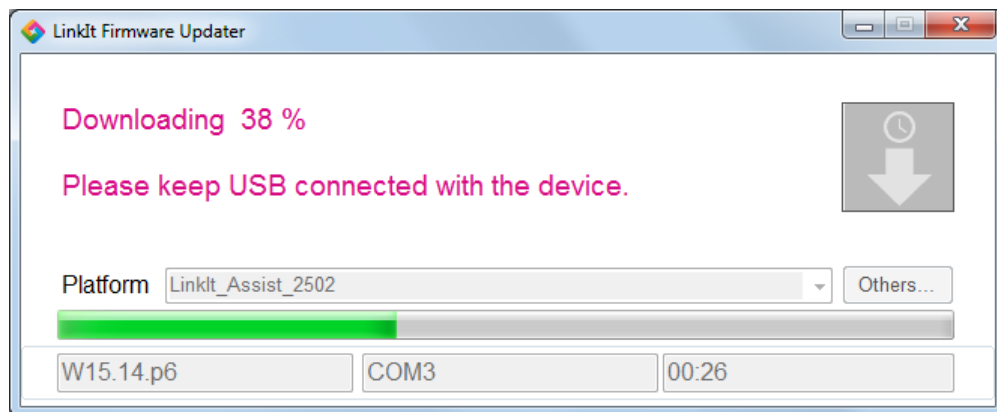

Figure 14 The firmware being uploaded to your device
- 5) The firmware is now downloaded to the development board, as shown Figure 14. Do not disconnect the development board from your PC during this process.